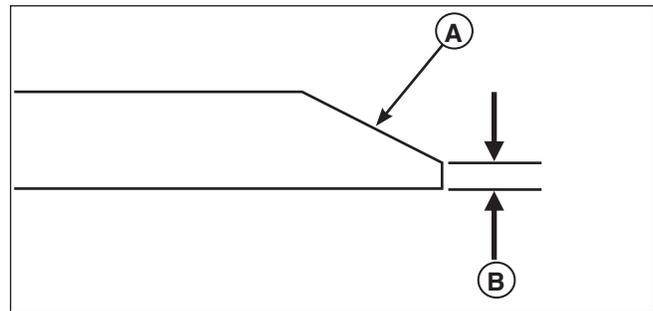

Figure 29. Sharpening the Mower Blade
3. Keep the original bevel (A, Figure 29) when grinding. **DO NOT** change the mower blade bevel.
4. The mower blade should have a maximum 1/64" (0,40 mm) cutting edge (B) or less.